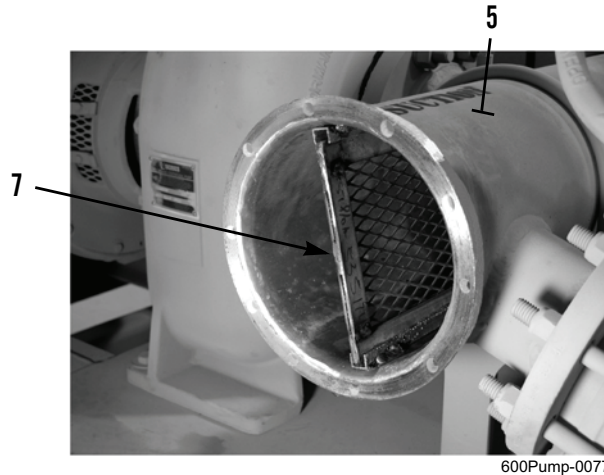

Figure 3. Strainer - Installed.
7. Slide strainer (Figure 3, Item 7) in suction manifold (Figure 3, Item 5).